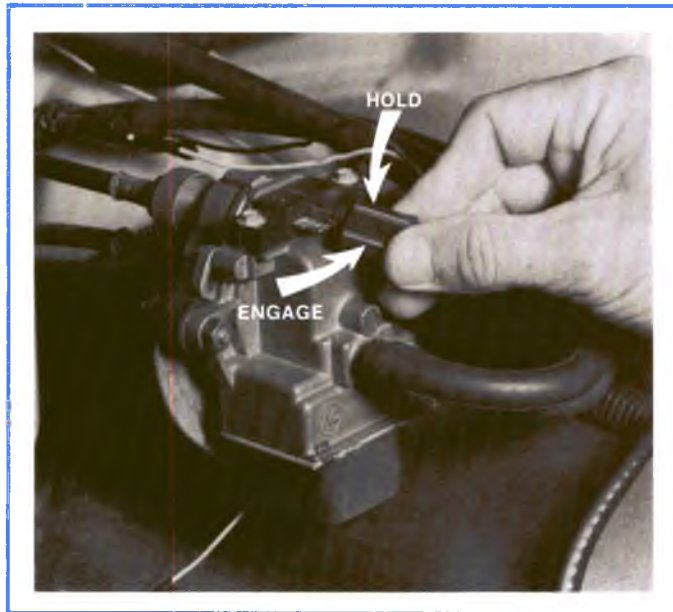

Figure 1-19, Reverse Electrical Connector Harness to Bypass Low Speed Switch.
Step 4 Remove the electrical connection at the transducer (figure 1-19). Reconnect so that the "ENGAGE" wire in the harness mates with the "HOLD" terminal on the transducer. This bypasses the low speed switch.